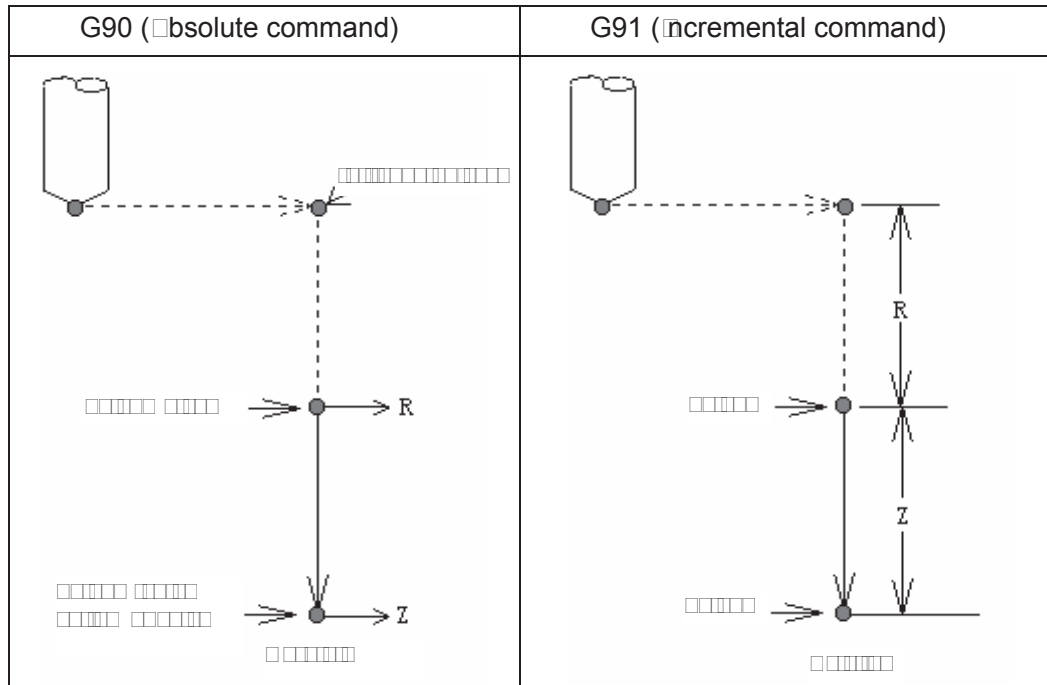

Fig. 13.1 (A) Absolute and incremental commands for canned cycle
command is G 90. The specified  $R$  value is the distance relative to the initial plane, and the  $Z$  value is the distance relative to the  $R$  point plane when the command is G91. See the Fig. 13.1 (A)